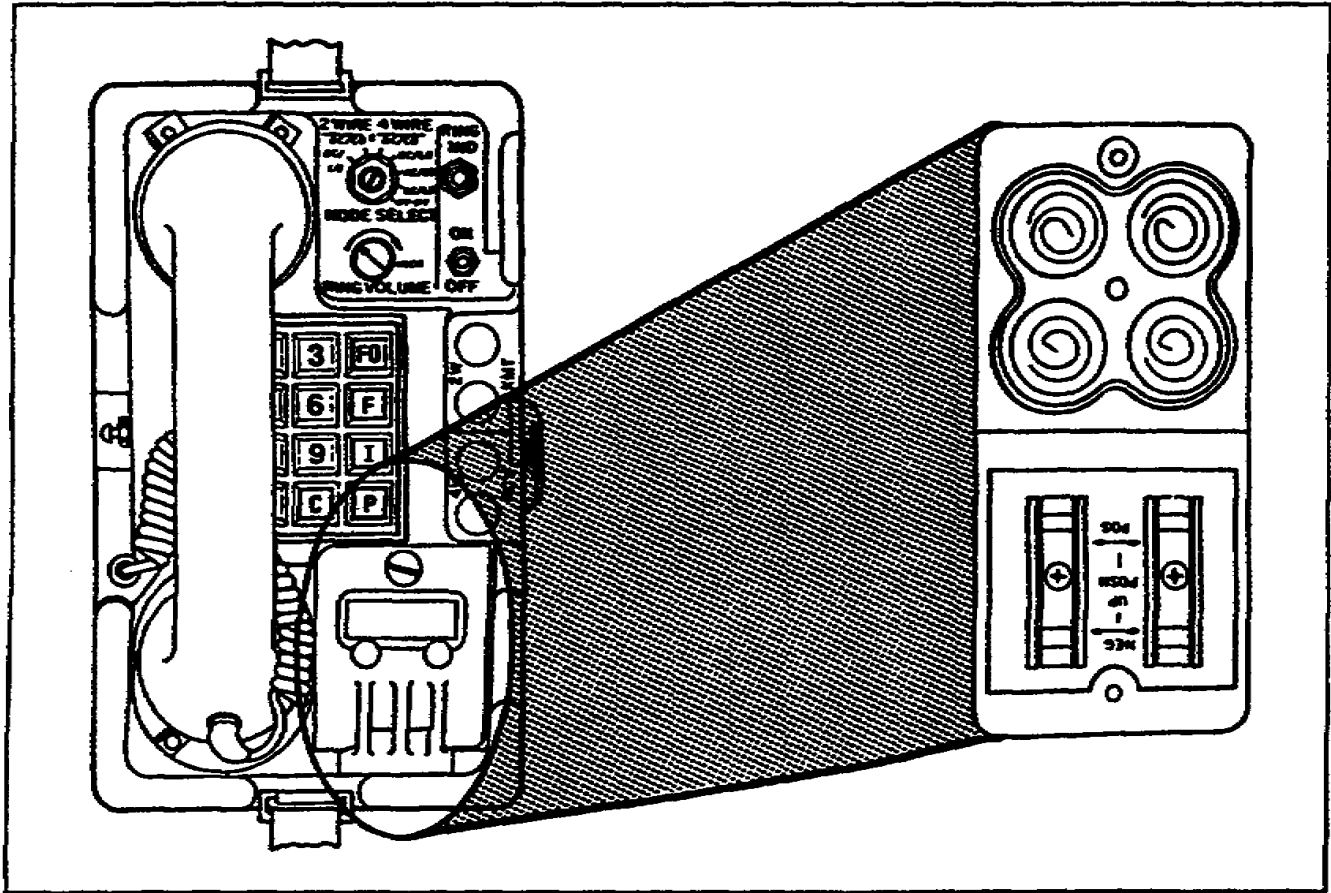

Figure 1-14. Battery compartment cover.
a. To insert batteries, the compartment must be opened and checked for foreign matter. To open the compartment, turn the thumbscrew counterclockwise and lift the cover. (See Figure 1-14.)